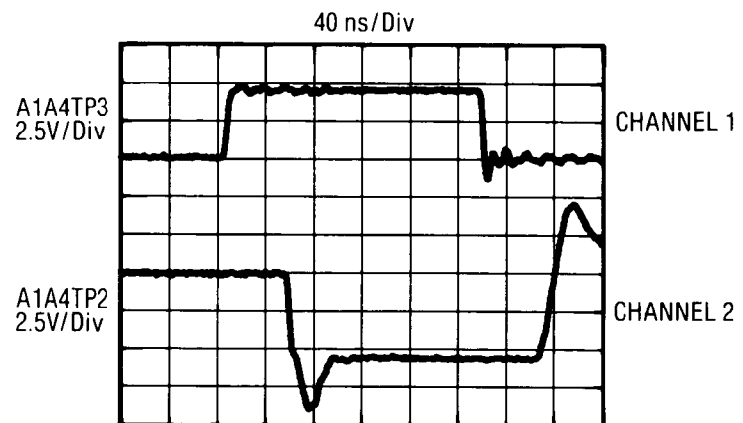

Figure 8-45. Pulse Driver Board Input and Shunt Pulses
14. Connect channel 1 of the oscilloscope to A1A4TP3 and Channel 2 to A1A4TP2. Set Channel 1 display at top of screen. Set oscilloscope controls as shown in Figure 8-45 and compare the display to the figure.